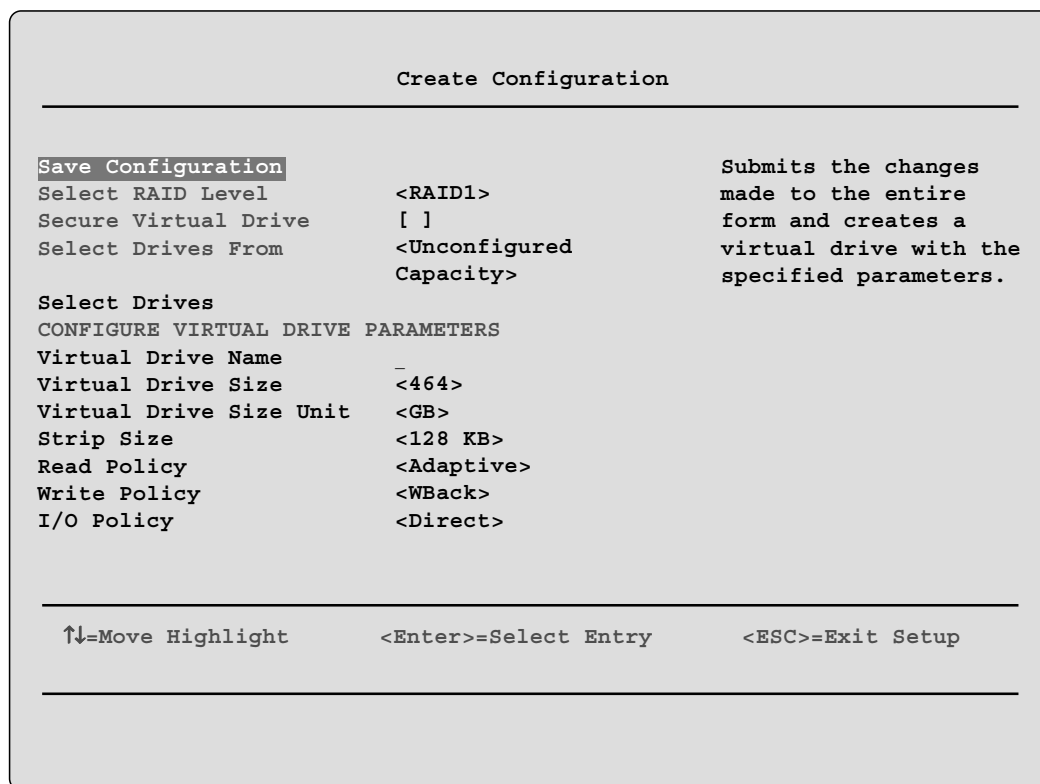

Figure 4 Create Configuration pane: Saving the configuration
13. Select **Save Configuration** as shown in Figure 4.